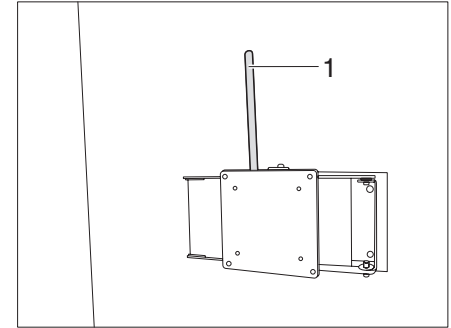

Fig. 71 Bracket with jointed arm (Variant 4)
- Pull the lever (Fig. 71,1).
- Push the lever (Fig. 71,1) back up into the initial position to lock.